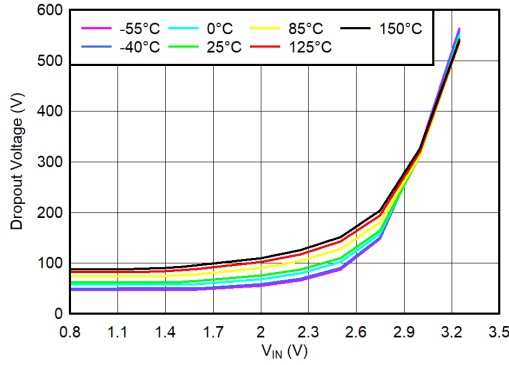

FIG 6-29.  $V_{IN}$  Dropout Voltage vs  $V_{IN}$  and Temperature ( $T_J$ ) for  $I_{OUT} = 1.5 \text{ A}$
- (1) Adjustable devices tested at 0.8 V; resistor tolerance is not taken into account.
(2) Dropout is defined as the voltage from  $V_{IN}$  to  $V_{OUT}$  when  $V_{OUT}$  is 3% below nominal.
(3) 3.25 V is a test condition of this device and can be adjusted by referring to Figure 6.29.